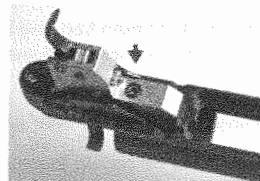

Fig 8, Allen head mounting screw of three position safety, trigger assembly
Step 13. Place the new two stage trigger assembly on the receiver in the same position as the old trigger assembly. Place the supplied Allen head cap screw into the mounting hole of the new trigger assembly and using a 3mm Allen head wrench, turn the screw clockwise until it is tight and the trigger assembly is tight against the receiver (see Fig 8).